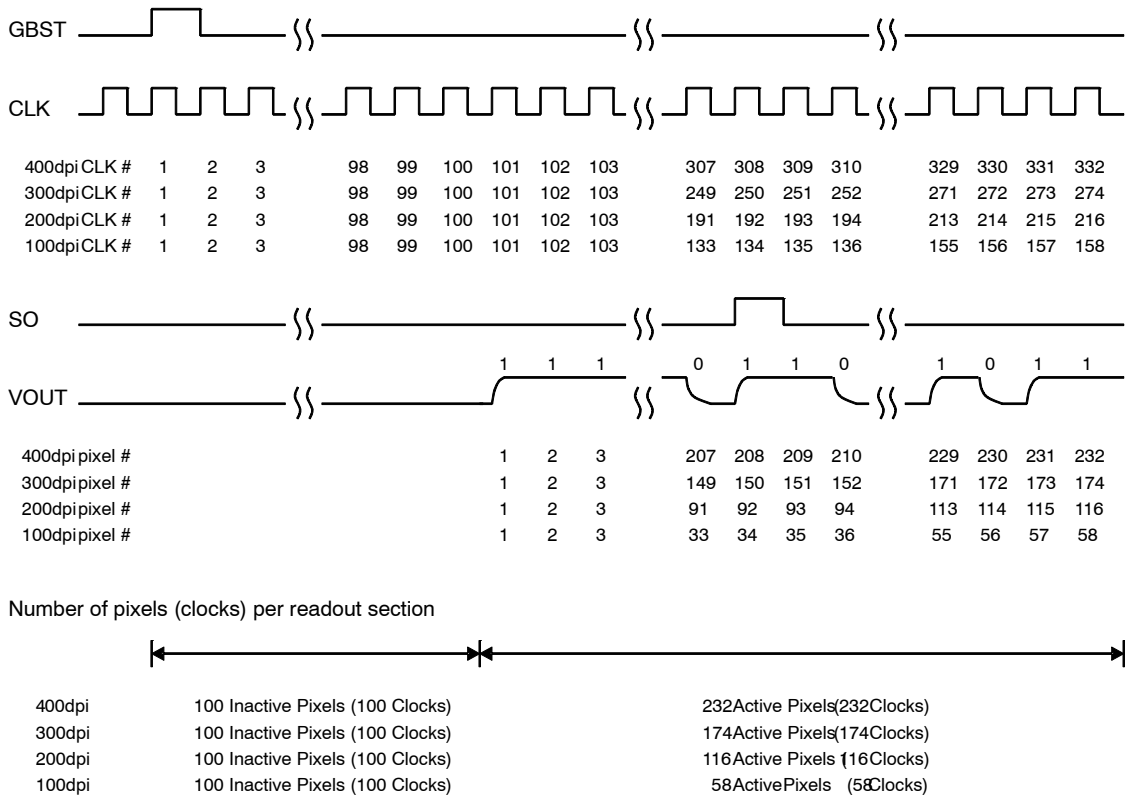
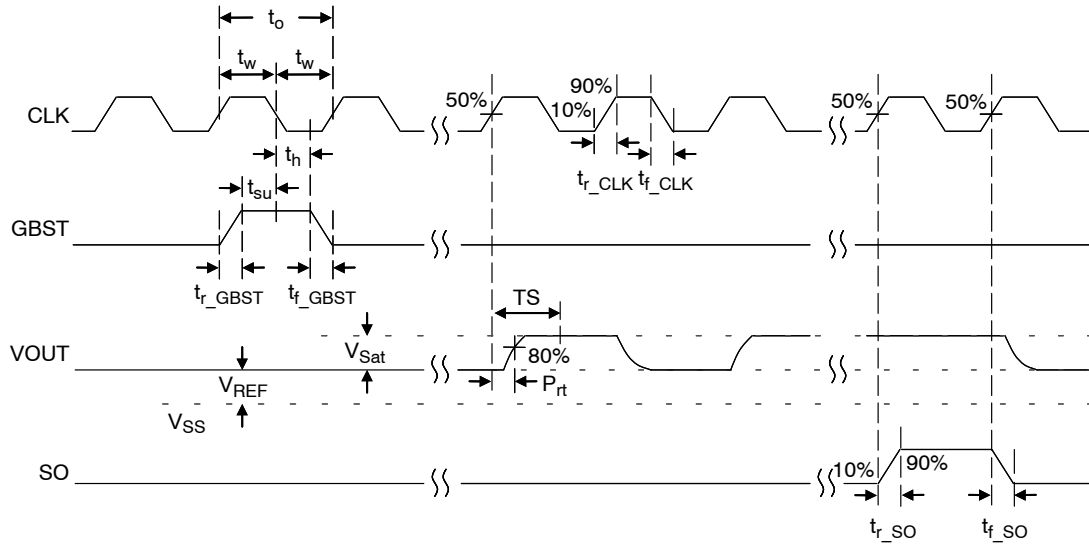
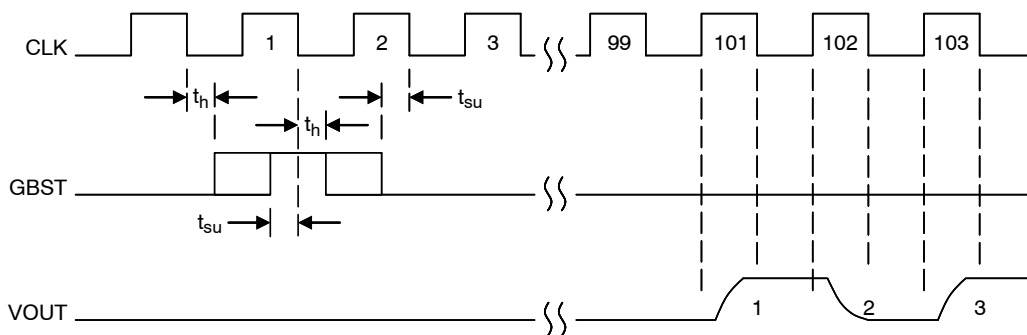

Figure 4. Overall Timing Diagram for 400/300/200/100dpi Modes
Figure 5. Rise and Fall Times for 400/300/200/100dpi Modes
Figure 6. Timing of GBST-to-First Pixel for 400/300/200/100 dpi Modes
4. Refer to Figure 4 through Figure 6 for more information on AC characteristics
7. The shift register loads on the falling edge of CLK, therefore setup and hold times (t_{su} , t_h) are needed to prevent loading of multiple start pulses. This would occur if GBST remains high during two fallings edges of the CLK signal. See Figure 4.
Figure 4 shows the initialization of the sensor for the 400 dpi, 300 dpi, 200 dpi and 100 dpi modes. The sensor will operate with 100 inactive pixels being clocked out before its first active pixel is clocked out.
Figure 4 and Figure 5 detail the timing of the CLK, GBST, OUT, and SI/SO signals in further detail, they have the same timing requirements for the 400, 300, 200 and 100 dpi modes. The rise and fall times are listed in Table 5. In Figure 6, note that clock 100 is the first active pixel, as the first 100 clocks produce dummy pixels (the output of the first 100 clocks should not be used for any purpose such as black level clamping).